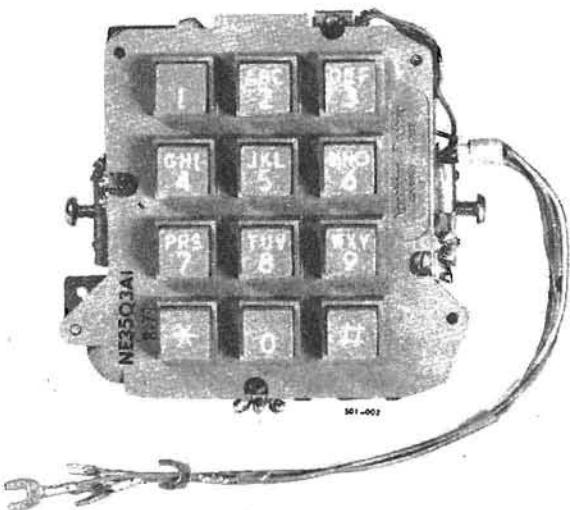

Fig. 1 - NE-35Q3A1 Dial, Front View
- 01 The NE-35Q type DIGITONE dial is a 12-button multifrequency dialing device. It is equipped with pushbuttons having both numbers and letters, a transistorized oscillator and a common switch (Fig. 1).